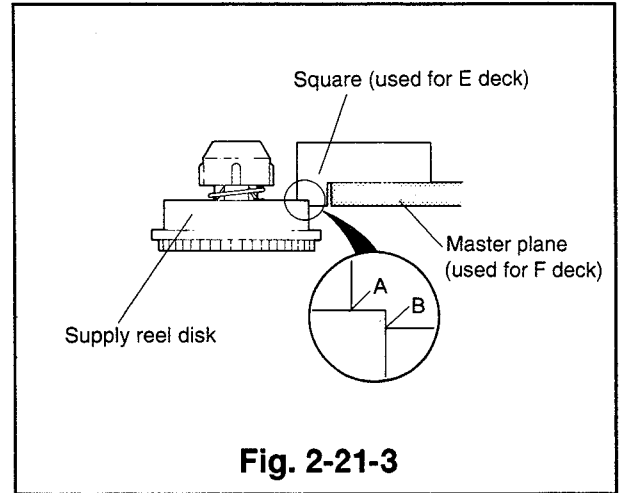

Fig. 2-21-3
- ③ Place the height adjusting jig [square](used for E deck: Part No.859C341070) on the jig, previously installed placed in Item ④, as shown in Fig. 2-21-3. Make sure that the height is correct (between A and B).
- ④ Adjust the height of the supply reel disk by varying the number of the washers(Part No.552C017O20) under the disk.